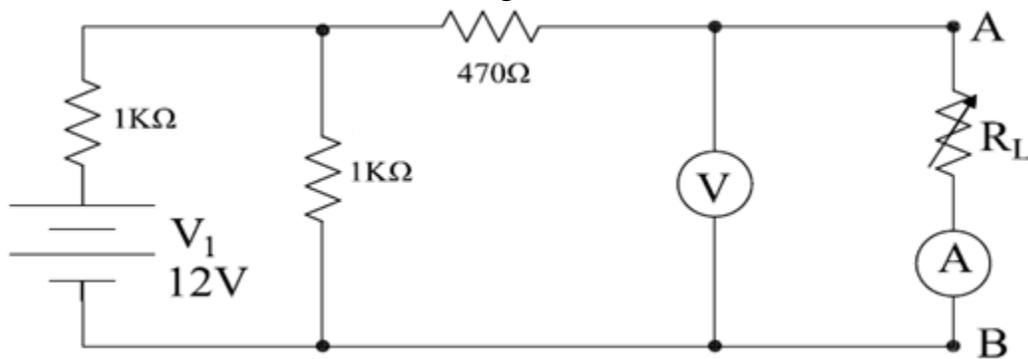

Fig.3.a: first lab. circuit
1. Connect the circuit as shown in Fig.3.a